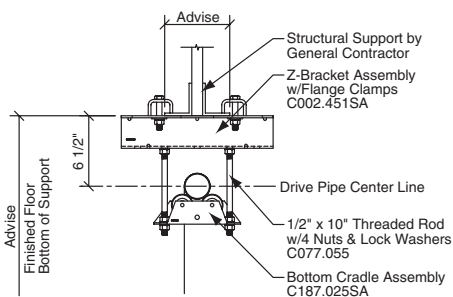

Figure 1
- ① Verify overall height and width with shop drawing to determine possible discrepancies.
- ② Attach winch support angles to winch and install winch per location shown on shop drawing.
- ③ Install drive pipe support assembly angles per location shown on shop drawing.
- ④ Attach drive pipe support assemblies to angles with threaded rod. Adjust assemblies vertically to proper height (See Figs. 1 and 2).